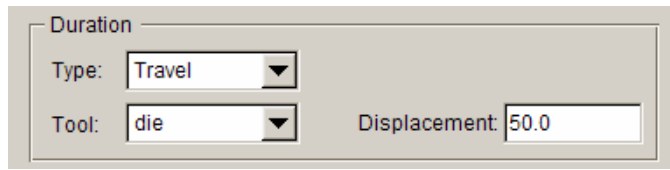

Figure 8.2.74 Displacement Control Stage Time
**TRAVEL** Allow the user to specify the current stage's calculation time by specifying the travel distance along the working direction of the tool. The user needs to select a reference tool from tool list as shown in Figure 8.2.74. Then, define the displacement value of the tool along its working direction.